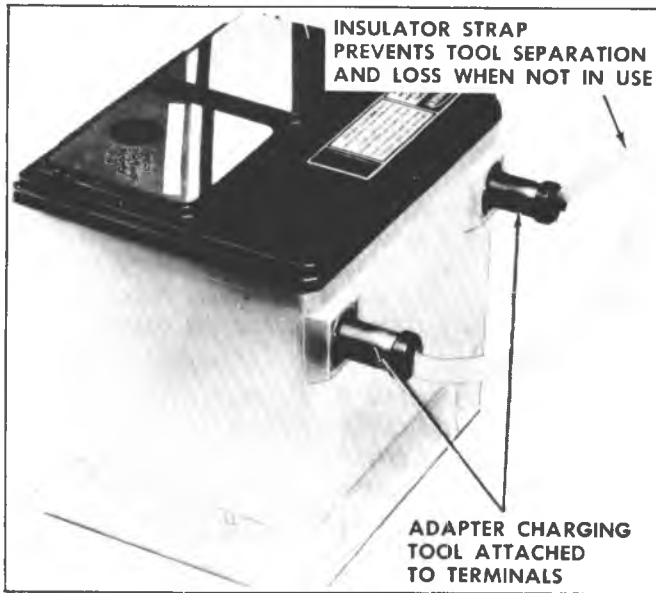

Fig. 6D-3B--Side Terminal Battery Adapters
d. If voltage does not drop below the minimum listed in Fig. 6D-5B, the battery is good. Temperature of the battery will change the minimum voltage to pass the load test. See Temperature vs. voltage drop Chart, and estimate the temperature the battery has been exposed to for the last several hours.